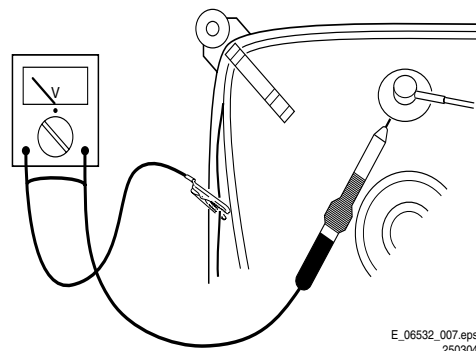

Figure 2-1 Discharge picture tube
- In order to prevent damage to ICs and transistors, avoid all high voltage flashovers. In order to prevent damage to the picture tube, use the method shown in Fig. 2-1, to discharge the picture tube. Use a high voltage probe and a multi-meter (position V_{dc}). Discharge until the meter reading is 0 V (after approx. 30 s).